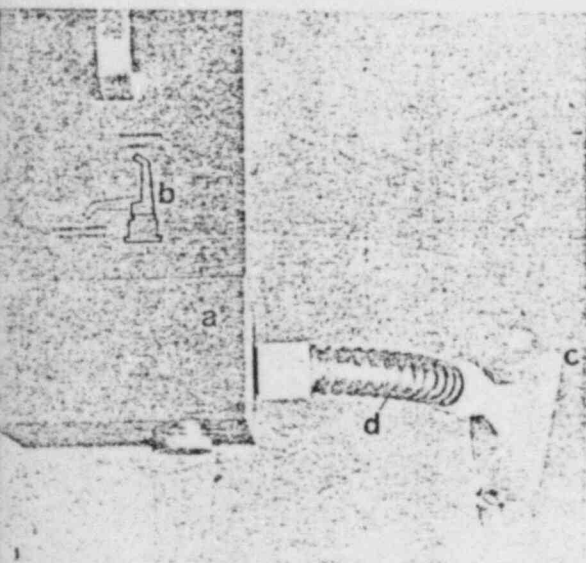

Figure 10a.
4.2 Head Valve (Figures 10a, b & c) - The Head Valve consists of the 1) room air intake port, 2) breathing port, 3) loop selector lever and 4) emergency oxygen assist button.